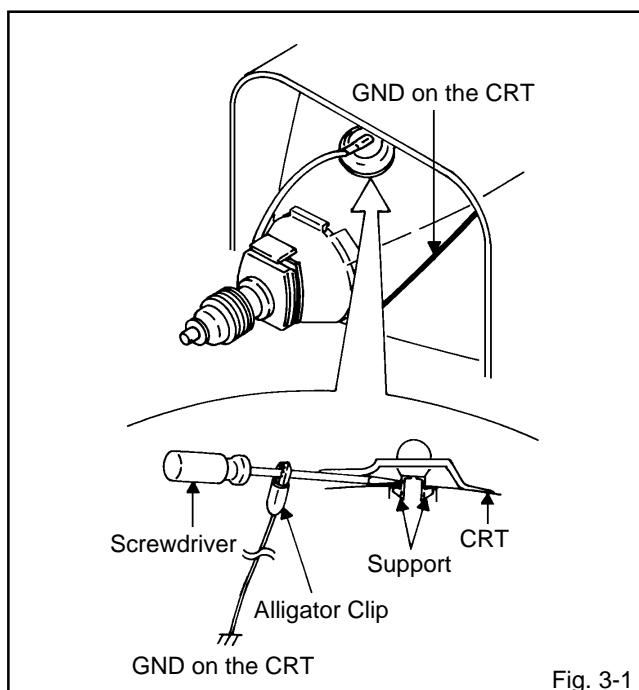

Fig. 3-1
1. Follow the steps as follows to discharge the Anode Cap. (**Refer to Fig. 3-1.**)